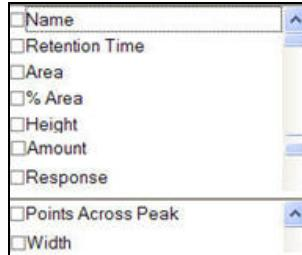

Figure 94 - Peaks Table Columns to be displayed
9. Click **Hide All**, scroll down to view all the column names and then uncheck the boxes as shown in Figure 94 to display only the desired columns.